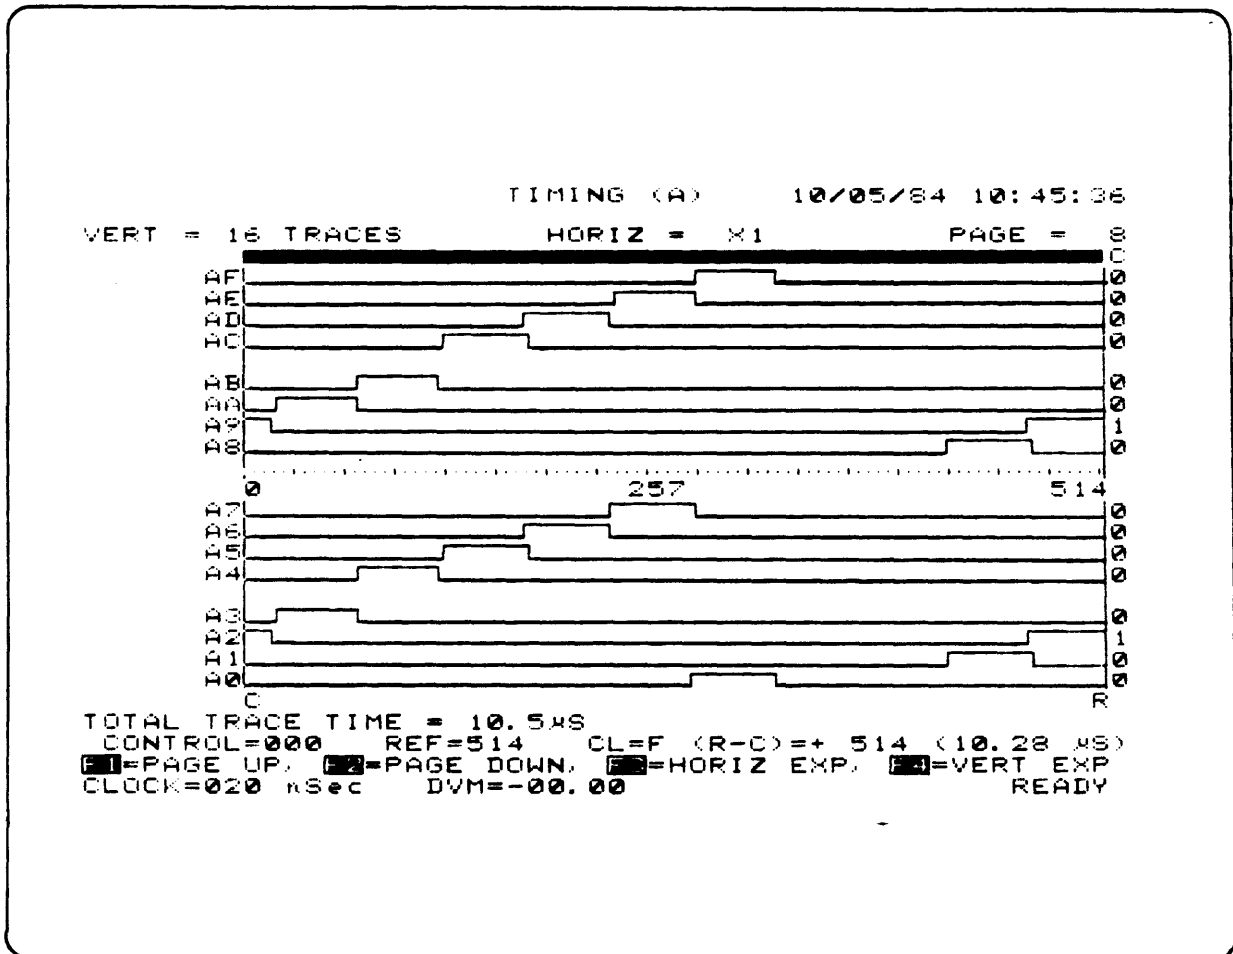

Figure 3-1. Typical Probe Test Recording Using Internal Clock
3. Press the TIMING key and watch the display pattern. A staircase pattern of pulses (shown in Figure 3-1) appears on the screen. This pattern begins at any point on the screen as determined by the Default Setup. Memory is filled with samples starting at Location 0 in the data stream.